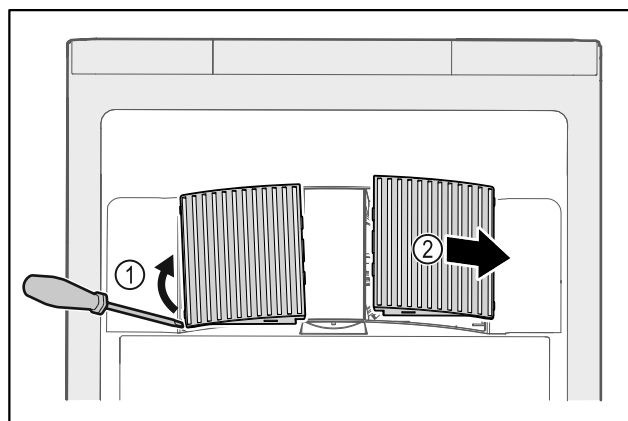

Fig. 236
- ▶ Carefully lever out fan covers from the side Fig. 236 (1) and remove towards the front Fig. 236 (2).